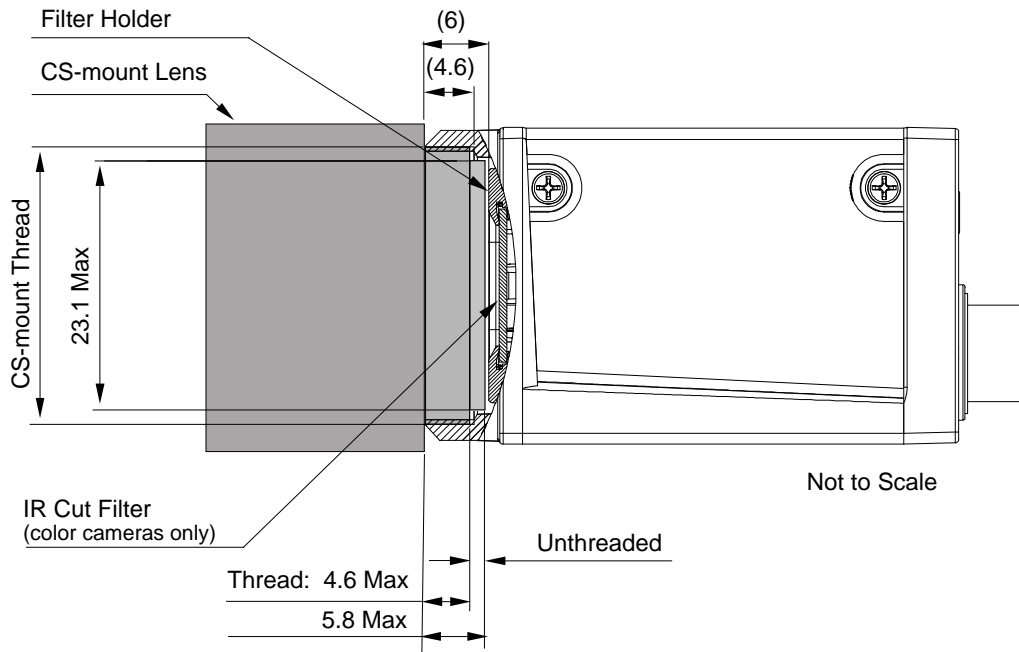

Fig. 28: Maximum Lens Thread Length (Dimensions in mm) for Cameras with the CS-mount Lens Adapter
- Camera with CS-mount lens adapter (see Figure 28):